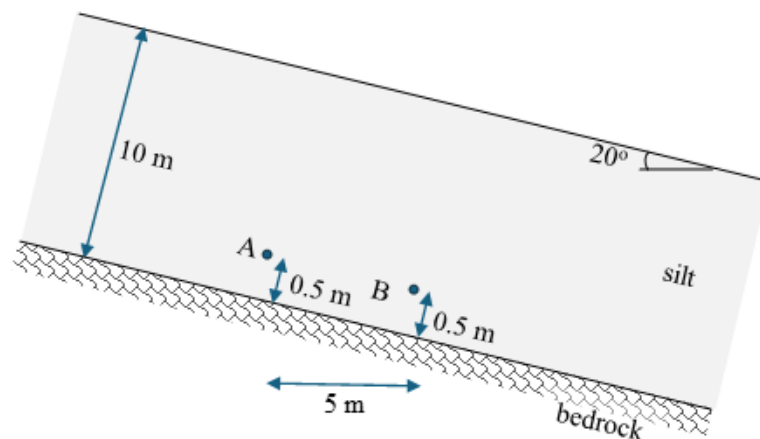

Fig. 2
- (c) The silty slope shown in Fig. 2 is at an angle of 20° to the horizontal and is underlain by bedrock. The D_{10} size of this soil is 0.012 mm and the specific gravity of the silt particles is 2.7. The surface tension of water can be taken as 0.0746 N m^{-1} and the contact angle of water to the silt particles as 70° to the horizontal. The dry density of the soil is 14.6 kN m^{-3} and the hydraulic conductivity is $6.8 \times 10^{-6} \text{ m s}^{-1}$. Standpipes inserted at locations A and B show water rising to 2.5 m and 2 m respectively. The horizontal distance between locations A and B is 5 m. Calculate the seepage flow through the silt layer in the units of litres per day. [25%]